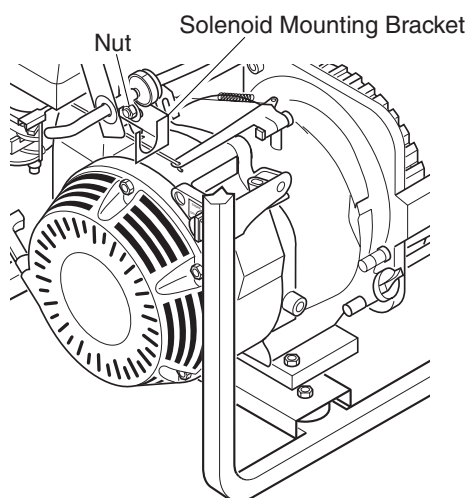

Figure 20 - Solenoid Bracket Location, Models MGH4000DI, MGH5000EI, MGH5000EIE, and MGH6500AIE Only
4. Loosen nut that holds the solenoid mounting bracket to the generator (Models MGH4000DI, MGH5000EI, MGH5000EIE, and MGH6500AIE. See Figure 20).
7. After reaching proper idle speed, tighten nut to secure solenoid mounting bracket (Models MGH4000DI, MGH5000EI, MGH5000EIE, and MGH6500AIE (see Figure 20).